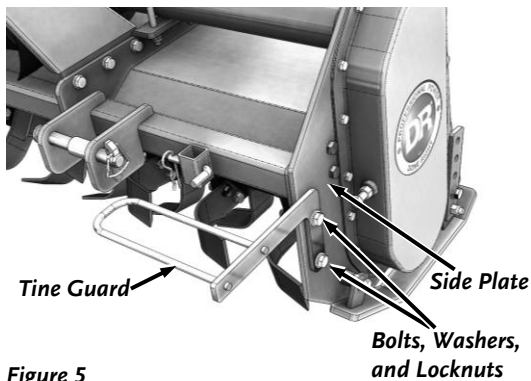

Figure 5
2. Position the Left Tine Guard on the **outside** of the Left Side Plate and secure using two M12 x 40 Bolts, two M12 Flat Washers, and two M12 Locknuts (**Figure 5**). Tighten the Hardware using an 18mm Wrench for the Bolts and a 19mm Wrench for the Locknuts.